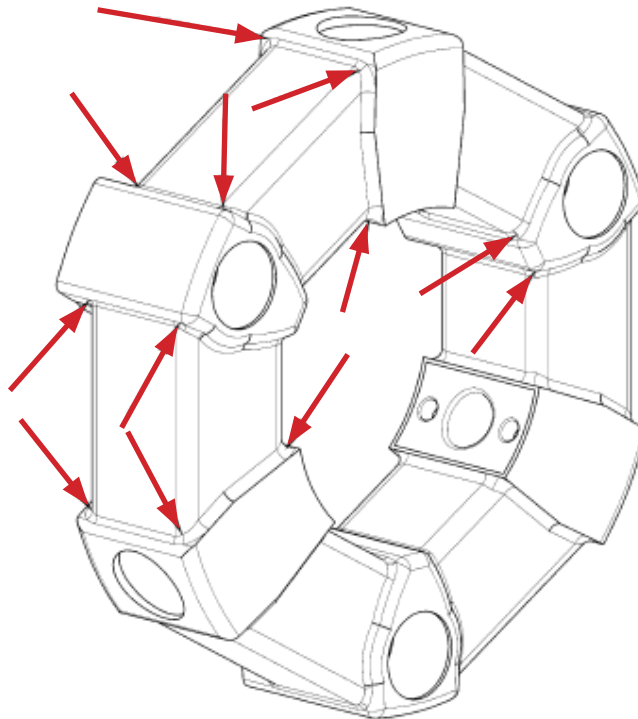

Figure 67: Examples of wear zones on the rubber element indicated by arrows
C. Inspect the rubber element for cracks and loss of rubber adhesion to the metal inserts inside the element. If a crack deeper than 1.5 mm is found or if the rubber-to-metal connections have come loose, the rubber element should be replaced. Figure 67 below shows typical rubber element wear zones. Pressure folds (creasing) in these zones may be considered normal.